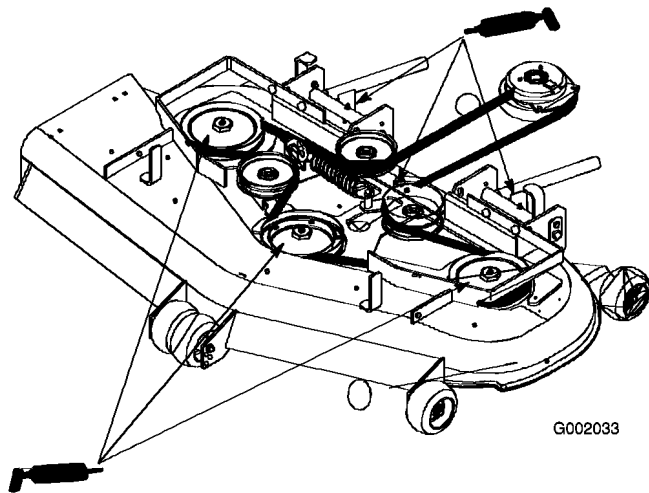

Figure 27
3. Grease the fittings on the three spindle bearings (Figure 27).
4. Grease the idler pulley pivot (Figure 27).
5. Grease the fittings on the push arms (Figure 27).